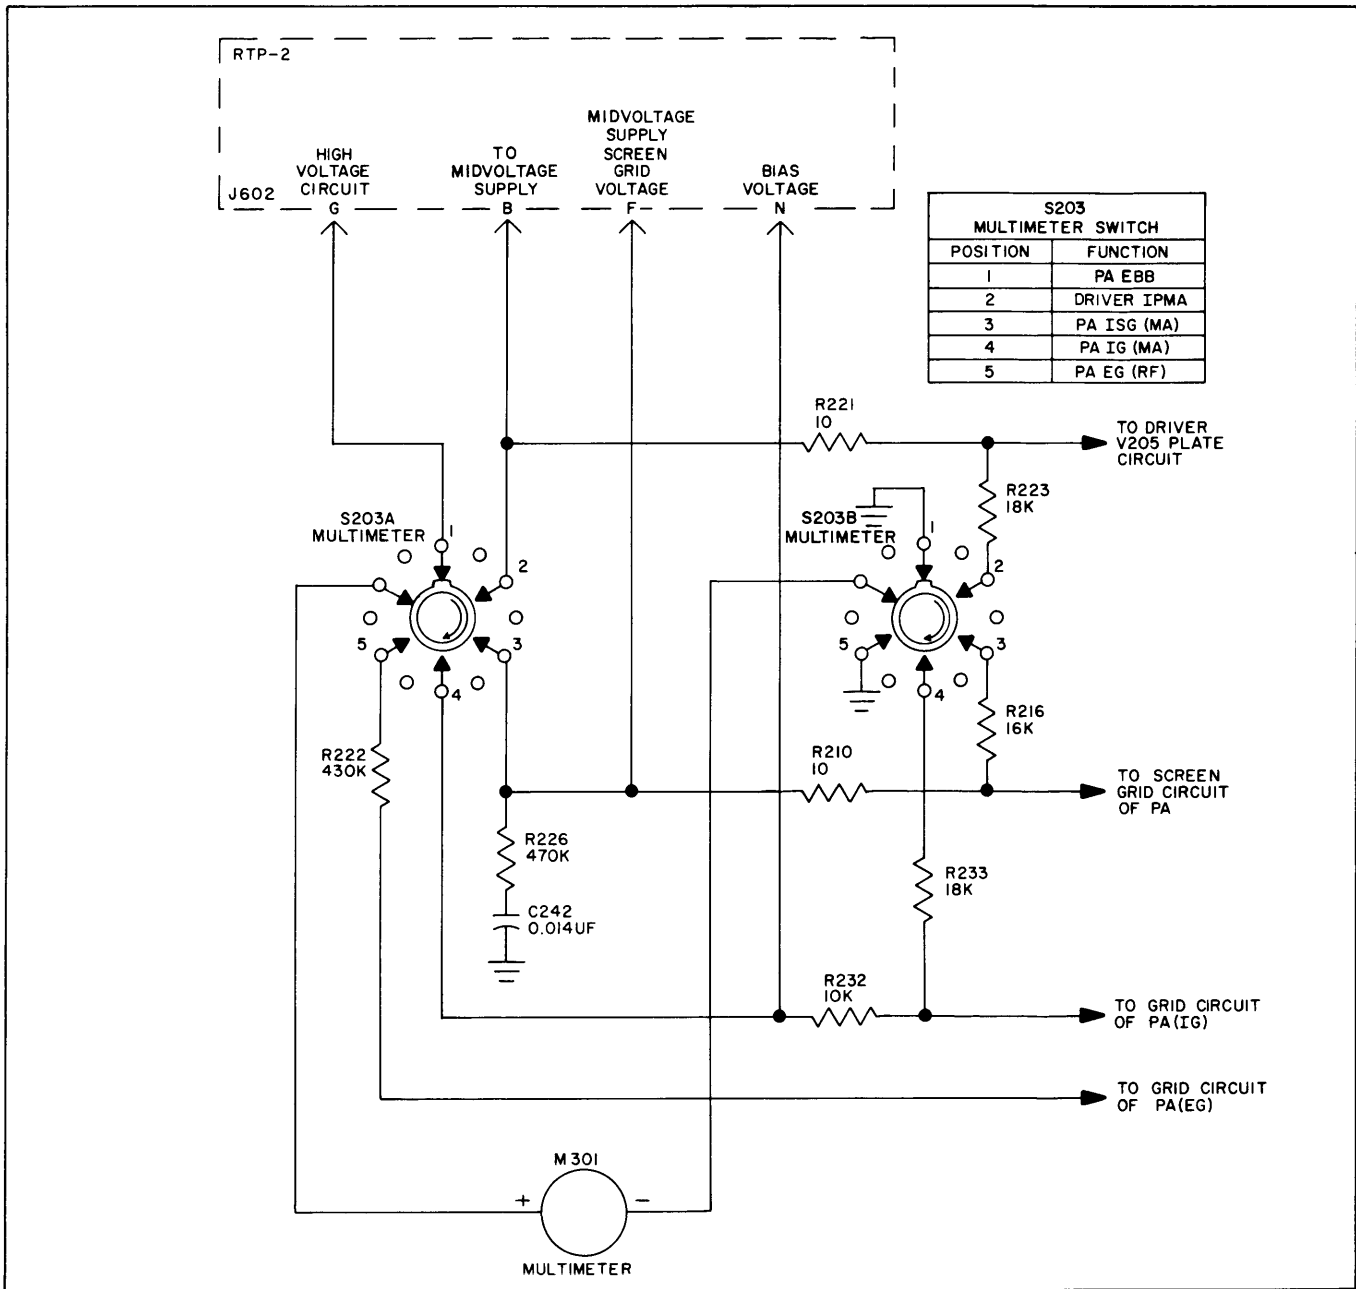

Figure 4-10. Metering Circuit, Simplified Schematic Diagram
(14) **METERING CIRCUIT.** - Meter M301, depending upon the position of switch S203, measures PA Ebb, DRIVER Ip, PA Isg, PA Ig, and PA Eg RF volts. (See figure 4-10.)